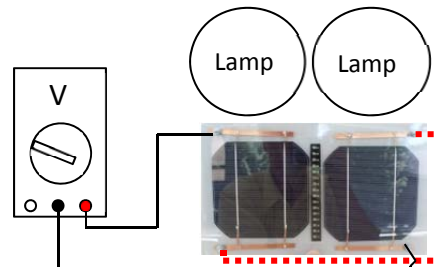

Fig. 2.6 Measuring open circuit voltage for two cells in series.
7. Leave the cells connected as in step 6. Reconnect the Volt meter to **measure** and **record** the open circuit voltage of the two cells in Series (See Fig. 2.6).